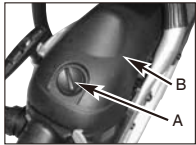

Fig. 18A
2. Remove knob (A) holding air filter cover in place, remove the top cover (B) by loosening the cover retaining screws. Cover will lift off. (Fig.18A)